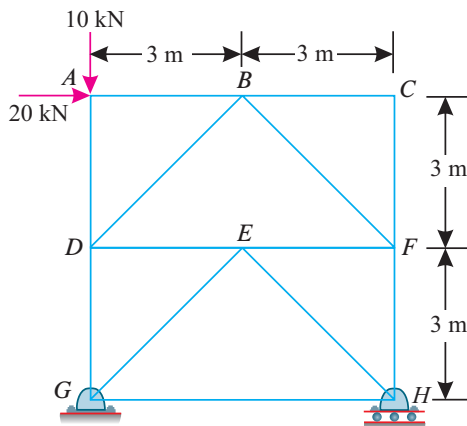

Fig. 14.56.
2. A truss is subjected to two point loads at *A* as shown in Fig. 14.56. Find by any method, the forces in all the members of the truss.